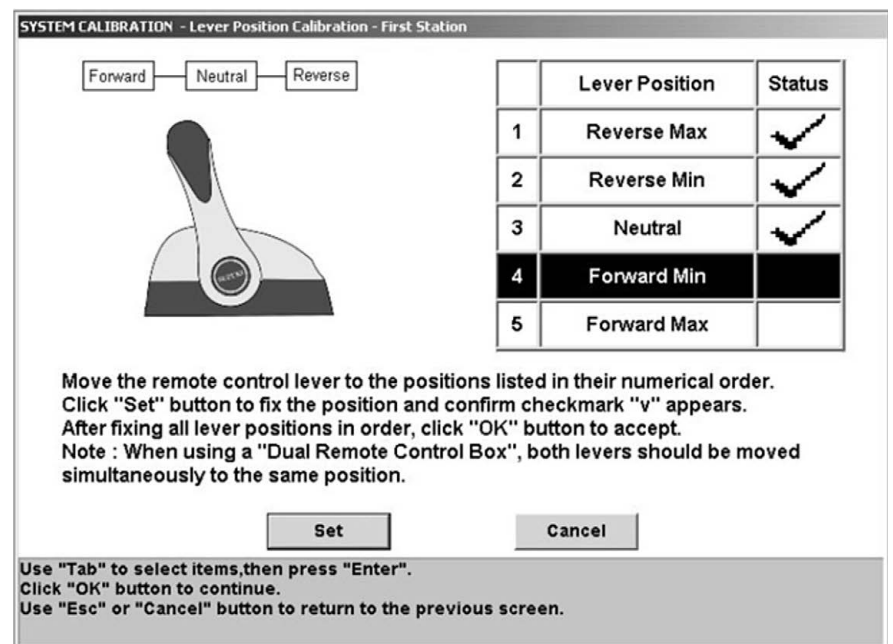

Figure 6-13. Control Head calibration.
5. Once each engine's position has been registered you will be prompted to calibrate the remote control lever positions. Using the main remote control, follow the on-screen instructions as seen in Figure 6-13.